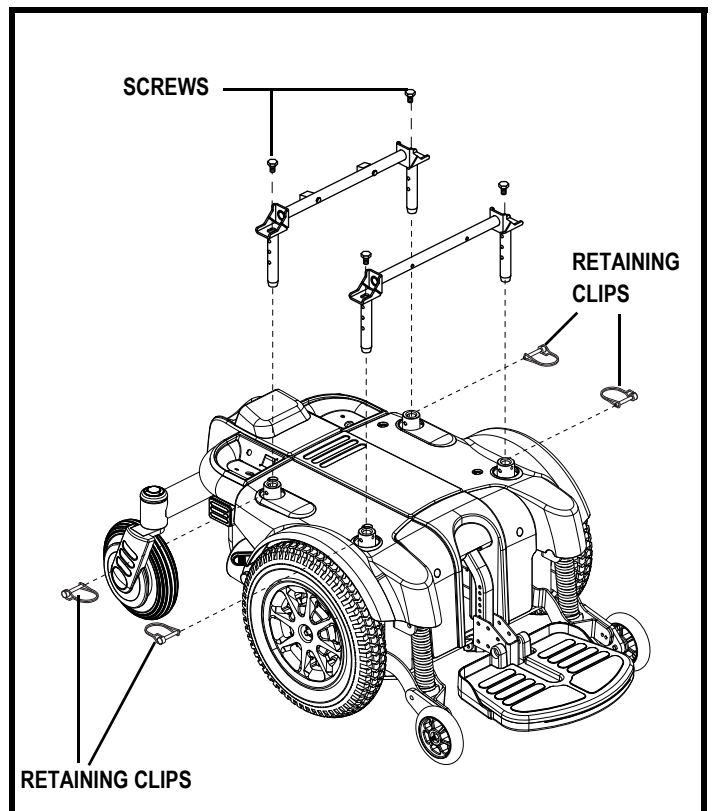

Figure 21. Trapeze Bar Adjustment
6. Loosen the screws that attach the trapeze bars to the seat towers. **See figure 21.**